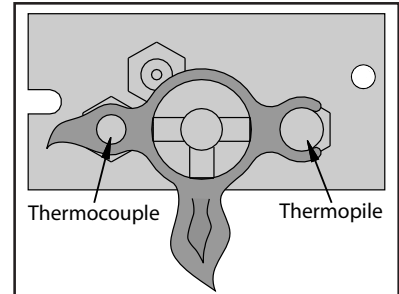
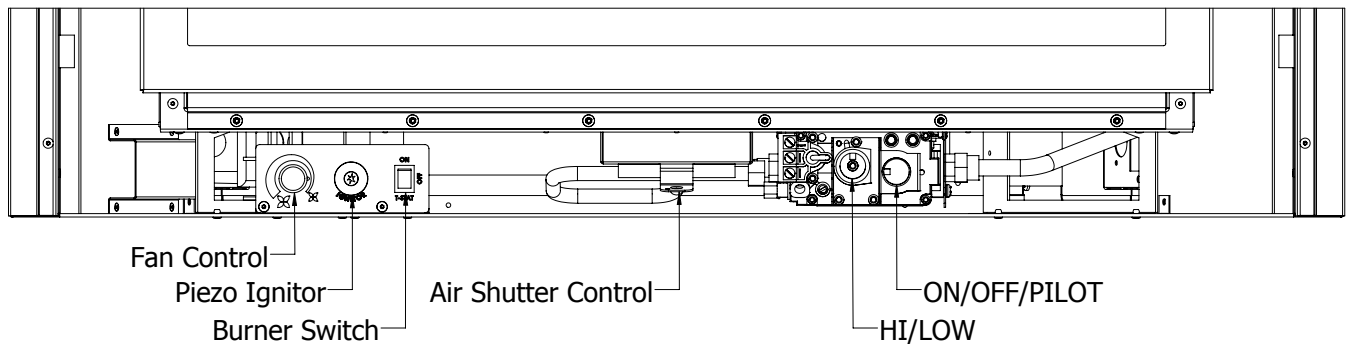

Figure 3. Pilot Flame
Figure 4. Burner Controls
1. Turn off the gas to the fireplace. **If not recently done, remove the glass and let the unit air out for at least five (5) minutes to clear out any gas.** Turn on gas to the fireplace.
2. Turn the gas control knob to pilot, push in and hold (see Figure 4); Simultaneously, press the piezo ignitor several times until the pilot ignites. Hold the gas control knob in for at least 30 seconds once lit. Check that the pilot has fully engulfed the thermocouple assembly (see Figure 3). The pilot should now stay lit on its own, release gas control knob.
Flip switch to OFF to turn off burners, turn the gas control knob to OFF to extinguish the pilot flame. Keep the pilot flame **OFF** when not in use for long periods. If the fireplace is to be serviced, turn the gas shut off valve OFF (DO NOT FORCE IT) and disconnect all electrical power sources. See Figure 4 for control panel layout.